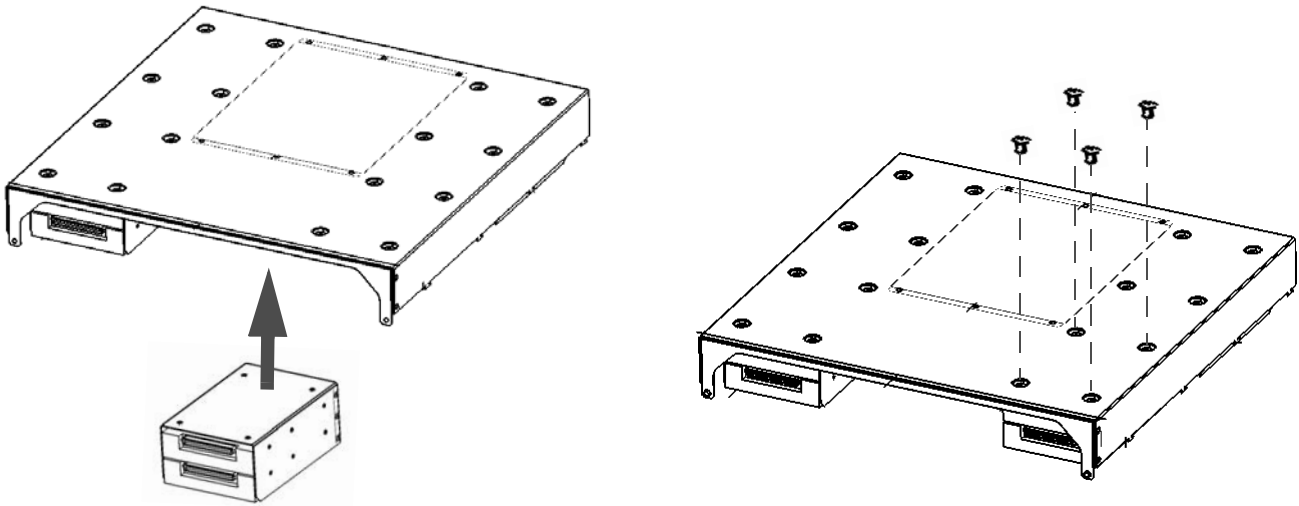

Figure 1-14 Securing the Drive Bracket to the Tray Cover
7. Position the bracket under the tray cover and install the four screws that secure the drive bracket to the tray cover; refer to Figure 1-14.